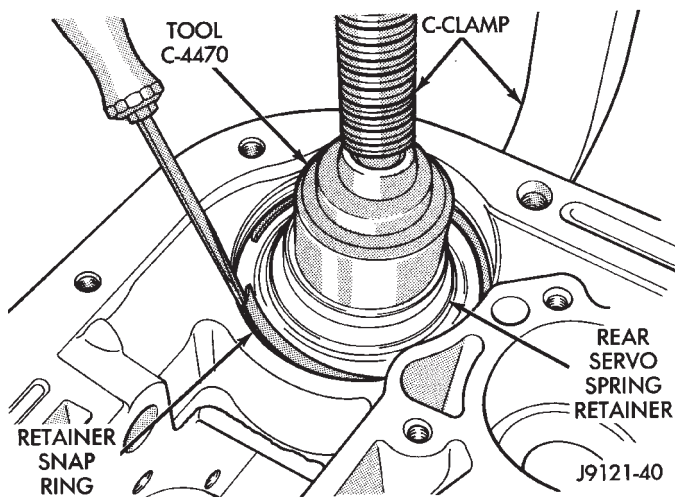

Fig. 36 Removing Rear Servo Retaining Snap Ring—46RH
(Fig. 36). Compress servo spring retainer only enough to permit snap ring removal.
(41) Remove servo piston snap ring (Fig. 36). Start one end of ring out of bore. Then carefully work removal tool around back of snap ring until free of ring groove. **Exercise caution when removing snap ring. Servo bore can be scratched or nicked if care is not exercised.**
(42) Remove tools and remove rear servo retainer, spring and piston assembly.